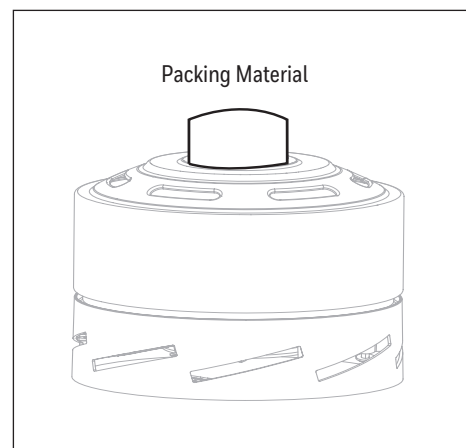

Figure 2.3
3. Remove and dispose of the orange packing material from the yoke of the motor assembly (Figure 2.3).